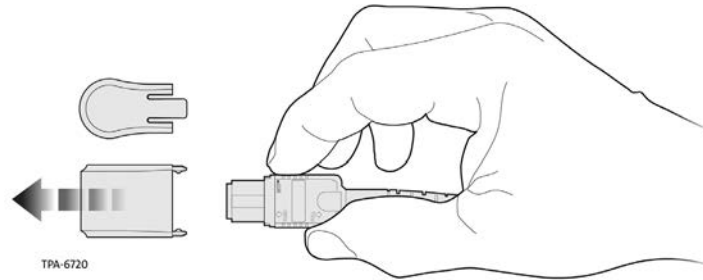

Figure 16A
Step 5: From the front of the housing, remove the MTP connector dust cap by pulling on the dust cap while holding the connector body/housing/shroud (see page 12, Figure 16A). Also remove the module adapter dust cap. For the initial mating, do not clean or scope connectors. Corning CleanAdvantage™ connectors are shipped with an optimized dust cap to maintain cleanliness for the first use.
Step 2: For the initial mating, remove dust caps from LC or MTP connectors on the jumpers cables by pulling on the dust cap while holding the connector body/housing/shroud (see page 12, Figure 16A). For the initial mating, do not clean or scope connectors. Corning CleanAdvantage connectors are shipped with an optimized dust cap to maintain cleanliness for the first use. NOTE: Only LC connectors are shown in Figure 19 and Figure 20.
Step 1: With the trunk cables securely installed in the housing, remove the dust caps from the MTP® trunk connector legs and MTP adapter panel (only on the rear side of the adapter panel) by pulling on the dust cap while holding the connector body/housing/shroud. (See page 12, Figure 16A) For the initial mating, do not clean or scope connectors. Corning CleanAdvantage™ connectors are shipped with an optimized dust cap to maintain cleanliness for the first use. Keep dust caps in place on the front of the adapter panel, if applicable.
- Step 2:** Remove the dust caps from the front of the MTP adapter panel, if applicable, and the MTP connector of the harness, jumper, or trunk by pulling on the dust cap while holding the connector body/housing/shroud. (See page 12, Figure 16A) For the initial mating, do not clean or scope connectors. Corning CleanAdvantage™ connectors are shipped with an optimized dust cap to maintain cleanliness for the first use.